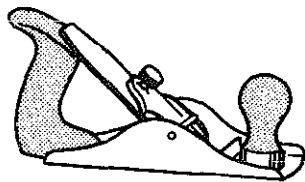

Fig. 8-75 Scrub plane.
- The *scrub plane*, figure 8-75, is used to plane off surplus wood when working to irregular lines.